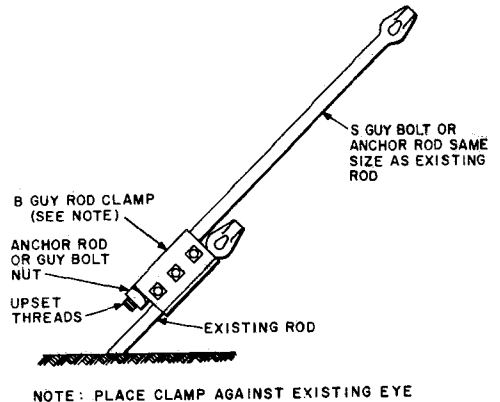

Fig. 1—Extending Length of Guy Rod
- 2.01** A B guy rod clamp may be used to extend the length of an existing rod (Fig. 1).